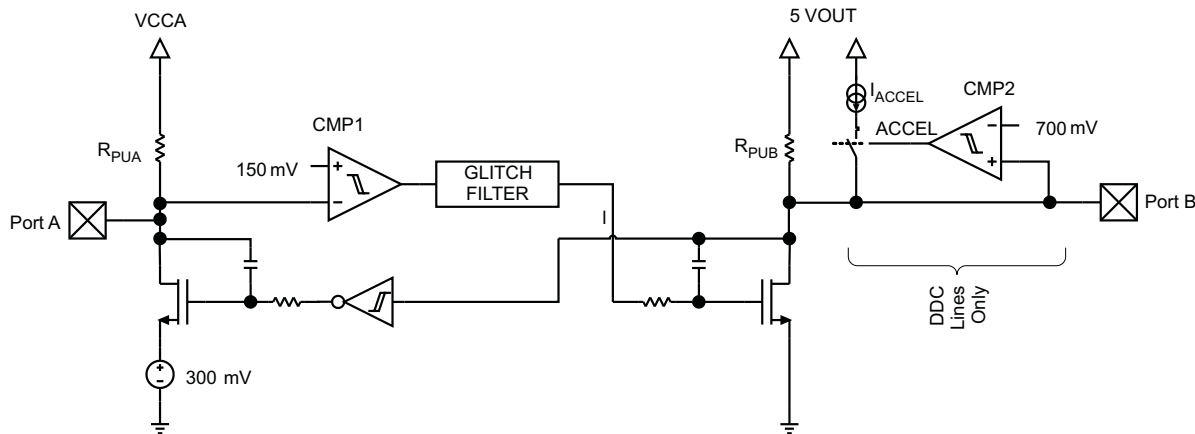

Figure 13. DDC/CEC Level Shifter Block Diagram
- The threshold of CMP1 (see Figure 13) is approximately  $150 \text{ mV} \pm$  the 40 mV of total hysteresis.